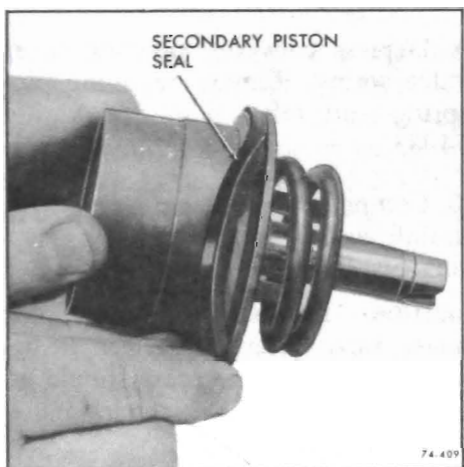

Figure 74-171
1. Remove secondary piston seal. See Figure 74-171.